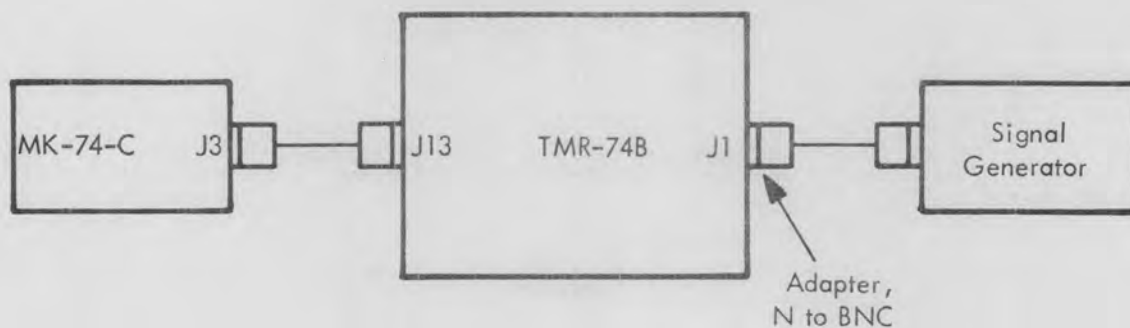

Figure 5-9. Equipment Setup for Spectrum Display Unit Test
- a. Connect equipment as shown in figure 5-9. Set controls as follows: